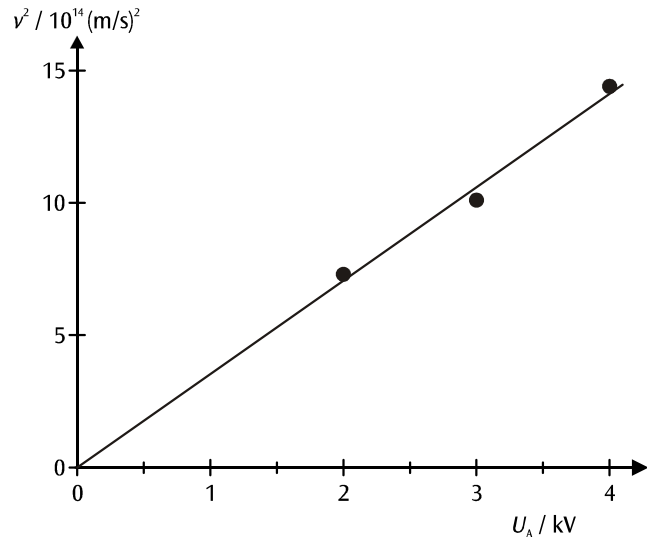

Fig. 7: Graph of v^2 against U_A
Fig. 7 is a graph of the square of the velocity against the anode voltage. The gradient of the resulting straight line through the origin also leads to a result for the specific charge of an electron according to Equation (8).